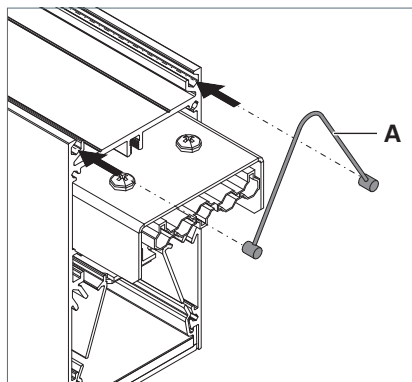

Fig. 17: Hanging wire rope into luminaire.
- Insert the ends of the wire rope **A** into the guides on the top of the luminaire, see Fig. 17.